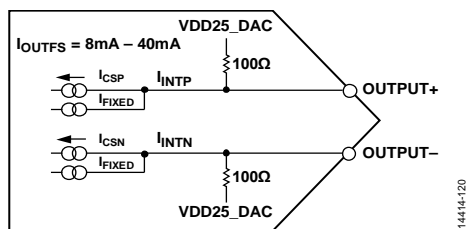

Figure 137. Equivalent DAC Output Circuit
The AD9164 provides complementary current outputs, OUTPUT+ and OUTPUT-, that sink current from an external load that is referenced to the 2.5 V VDD25_DAC supply. Figure 137 shows an equivalent output circuit for the DAC. Compared to most current output DACs of this type, the outputs of the AD9164 consists of a constant current (I_{FIXED}), and a peak differential ac current, I_{CS} ($I_{CS} = I_{CSP} + I_{CSN}$). These two currents combine to form the I_{INTX} currents shown in Figure 137. The internal currents, I_{INTP} and I_{INTN} , are sent to the output pin and to an input termination resistance equivalent to 100 Ω pulled to the VDD25_DAC supply (R_{INT}). This termination serves to divide the output current based on the external termination resistors that are pulled to VDD25_DAC.
The example shown in Figure 137 can be modeled as a pair of dc current sources that source a current of I_{OUT} to each output. This differential ac current source is used to model the signal (that is, a digital code) dependent nature of the DAC output. The polarity and signal dependency of this ac current source are related to the digital code (F) by the following equation: